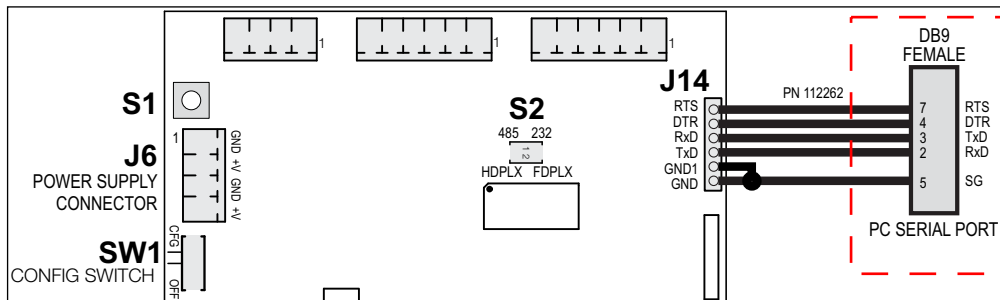

Figure 9-5. Host Connection to iQUBE² CPU Board
4. Connect power to system and place in SETUP mode by moving SW1 to the CFG position (see Figure 9-5 on page 98).
4. Connect power to the system and place it in SETUP mode by moving SW1 to the CFG position (see Figure 9-5 on page 98).
5. Connect power to the system and place it in SETUP mode by moving SW1 to the CFG position (see Figure 9-5 on page 98).